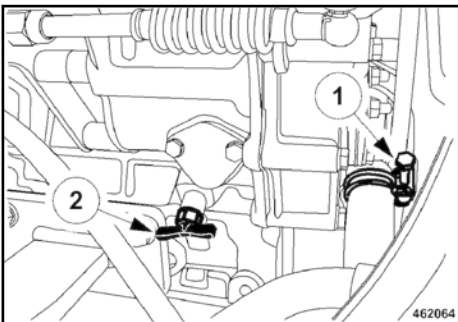

Fig. 165
Open the clamp (1) ↗ Fig. 165 and pull off the radiator hose.